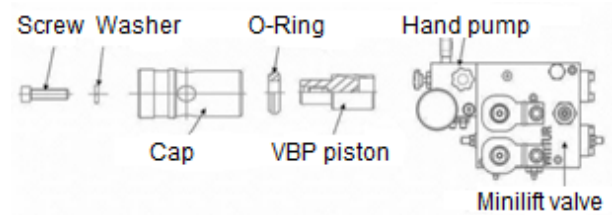

Figure 9
- To access the VBP valve piston, remove the hand pump, if present (Figure 9)